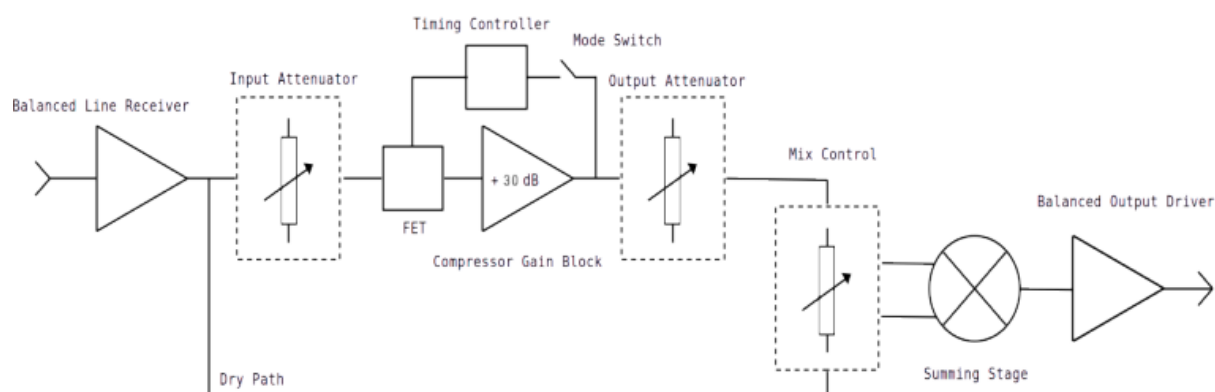

Figure 1: FK Comp Block Diagram
- Figure 1 is a simplified representation of the FK Comp's inner workings.